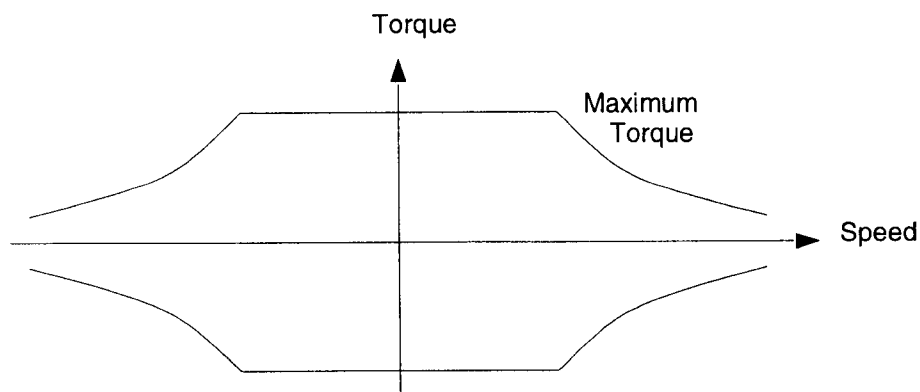

Figure Q4
- (c) Figure Q4 shows the typical limits of operation of a DC machine in terms of torque and speed. Explain why the limits have this shape [4]